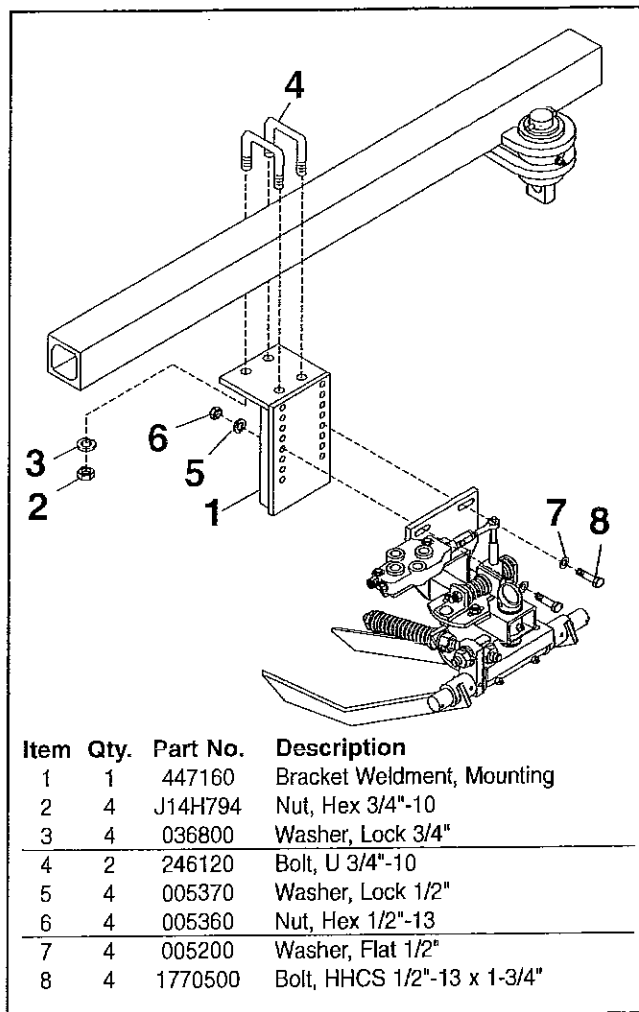

Figure 3.19: Hydraulic Rowfinder
1. Install the mounting bracket using the 3/4" U-bolts that are provided (see Figure 3.19).